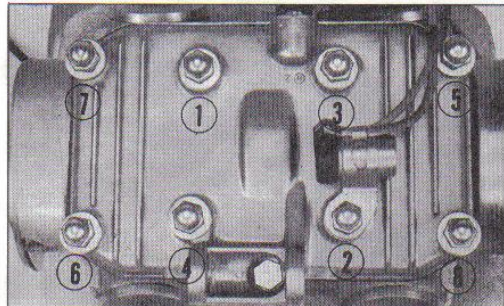

Fig. 54.
- ① Tensioner mounting bolt ② 5 mm, bolt
③ 3.4×1.20 ring
12. Torque the cylinder head bolts in accordance with Fig. 54.